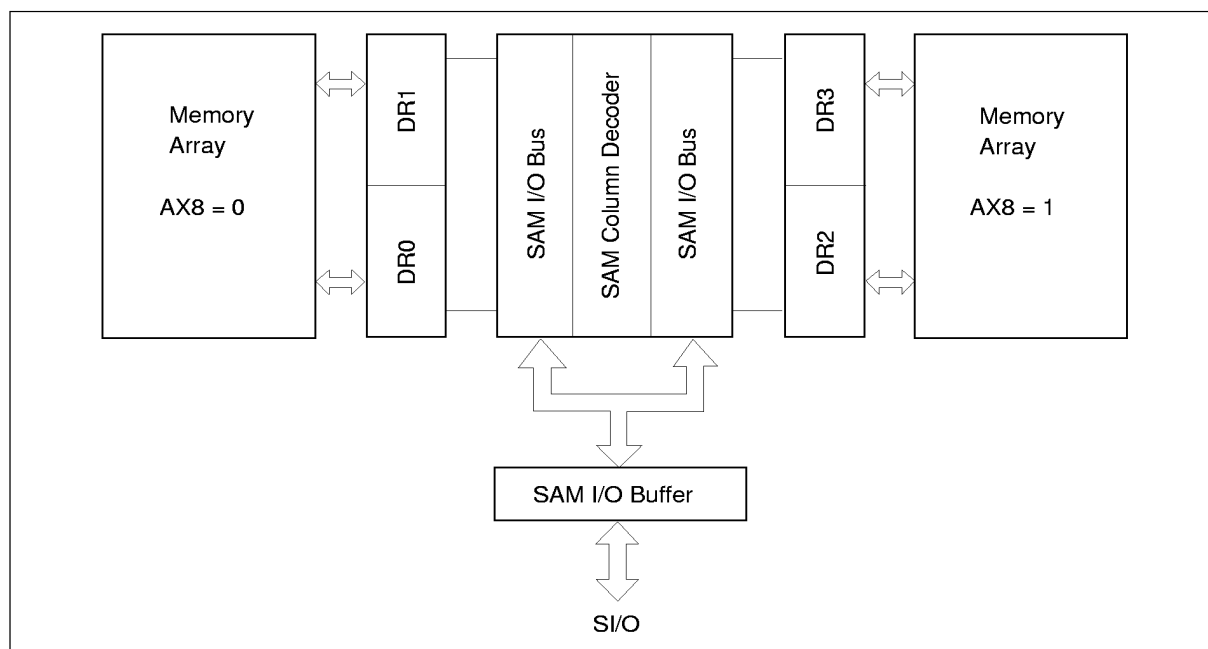

Figure 5 Split Transfer Block Diagram
Figure 5 shows the block diagram for the normal split register operation. SAMdata register (DR) consists of 2 split buffers, whose organizations are 256-word $\times$ 8-bit each. Suppose that data is read from upper data register DR1. (The row address AX8 is 0 and SAM address A8 is 1.) When split read transfer is executed setting row address AX8 to 0 and SAM start addresses A0 to A7, 256-word $\times$ 8-bit data is transferred from RAM to the lower data register DR0 (SAM address A8 is 0) automatically. After data is read from data register DR1, data read begins from SAM start addresses of data register DR0. If the next split read transfer isn't executed while data is read from data register DR0, data read begins from SAM start address 0 of DR1